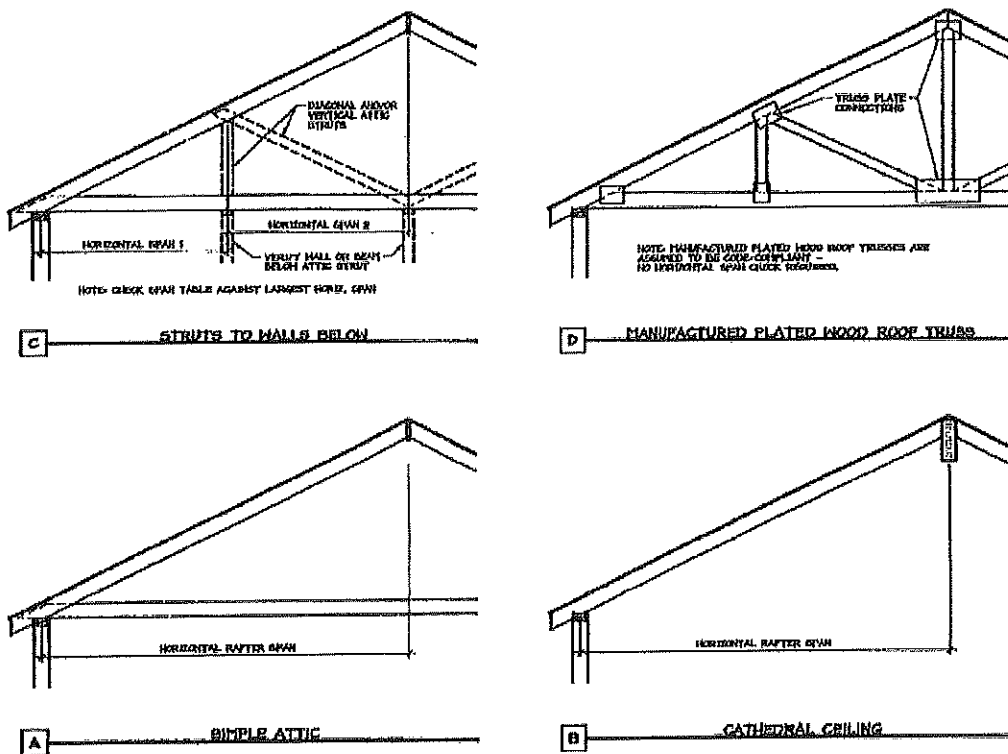

Figure 4. Definition of Rafter Horizontal Span.
5) Measured rafter horizontal span (see Figure 4): _____' - _____" ft-in
1. See Figure 4 for definition of roof rafter maximum horizontal span.
(Attach Figure 4 ONLY if the Optional Additional Rafter Span Check is added to the list of Structural Criteria)